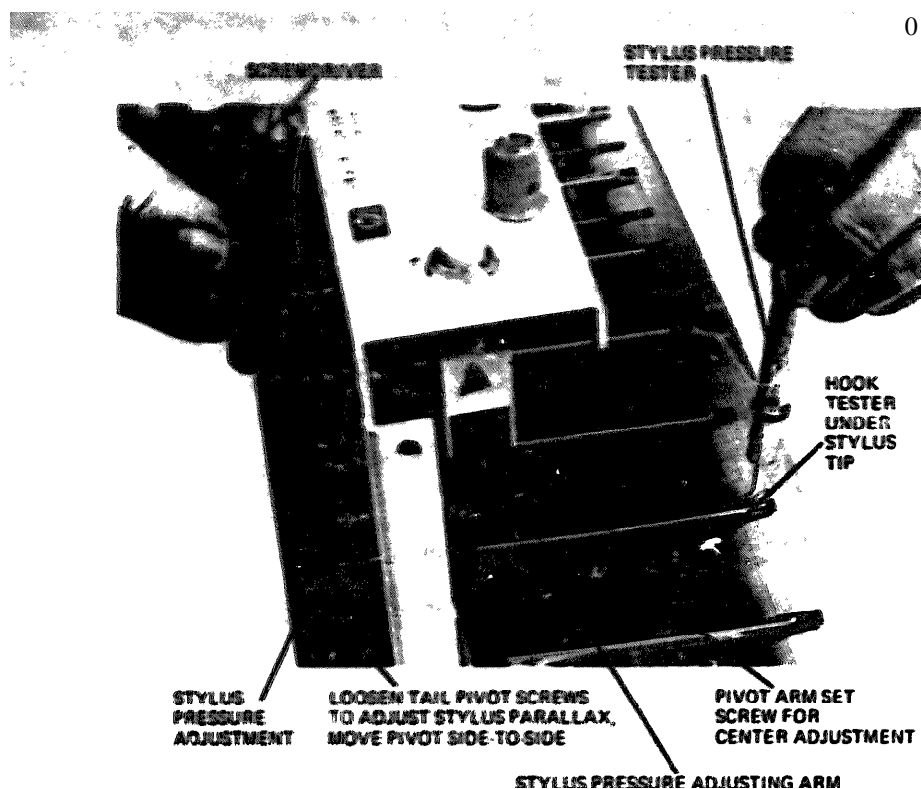

Figure 5-9. Stylus Adjustments
5-31. **STYLUS PRESSURE ADJUSTMENT.** Stylus pressure must be checked at the tip of the stylus only, for accurate readings. For the proper position for the stylus pressure tester, see Figure 5-9.
a. Loosen two screws indicated in Figure 5-9 and move stylus tail pivot into proper position. Tighten both screws snug but not tight.